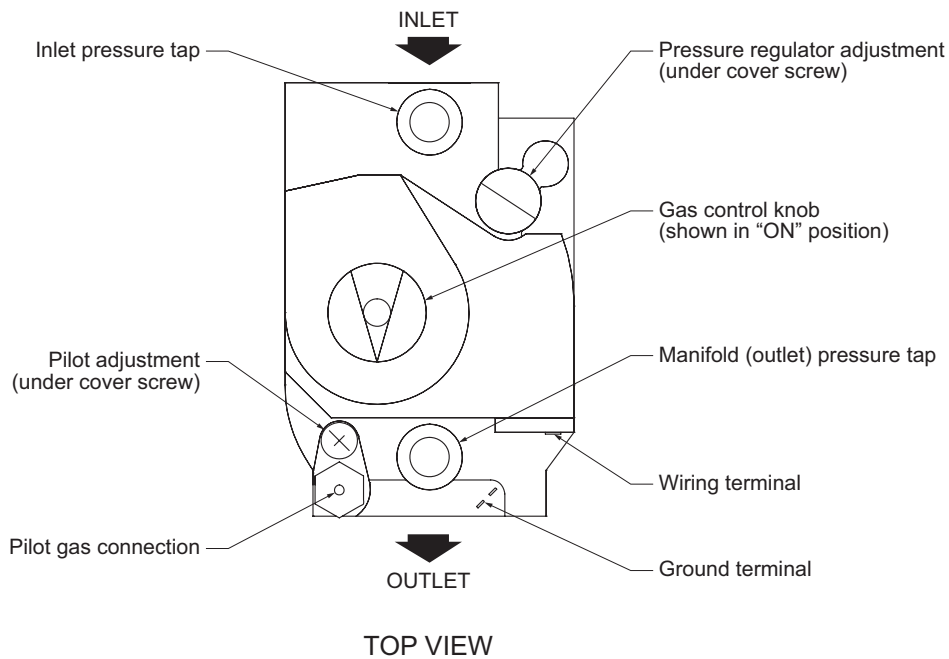

Figure 11.3 (Gas valve detail)
- Connect a manometer to the inlet pressure tap on the gas valve (see Figure 11.3).
- Connect a manometer to the manifold (outlet) pressure tap on the gas valve (see Figure 11.3).
- If a manifold pressure adjustment is needed, make the adjustment by turning the regulator (see Figure 11.3) screw clockwise to raise the pressure and counter clockwise to reduce the pressure. If a manifold pressure adjustment is made, recheck the line pressure to be certain that it is still within acceptable limits. Replace the cover screw on the regulator.
- Test for spillage at the draft hood relief opening after five (5) minutes of main burner operation. Use the flame of a match or candle, or smoke from a cigarette, cigar, pipe, etc.